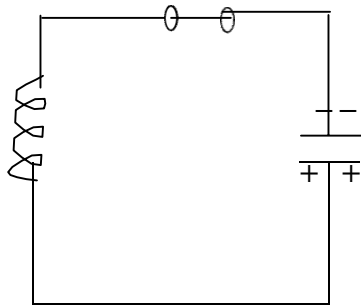

Fig. 3
- Once the capacitor is discharged, the magnetic field will begin to collapse and produce a counter emf. According to Lenz's law the counter emf will keep the current flowing in the same direction. The result is that the capacitor is now charged with opposite polarity making upper plate of capacitor –ve and lower plate +ve as shown in fig. 3.